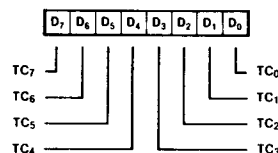

Figure 6. Time Constant Word
**Time Constant Programming.** Before a channel can start counting it must receive a time constant word from the CPU. During programming or reprogramming, a channel control word in which bit 2 is set must precede the time constant word to indicate that the next word is a time constant. The time constant word can be any value from 1 to 256 (Figure 6). Note that  $00_{16}$  is interpreted as 256.